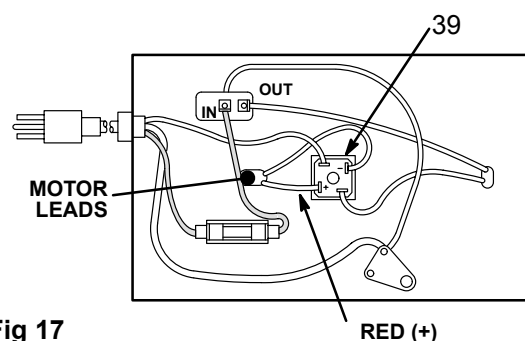

Fig 17
1. Remove the front cover (23).
2. Remove the base cover (42). Disconnect the motor leads from the positive and negative rectifier terminals. See Fig 17.
3. Remove the motor screws (20). Lift the motor (30) slightly. Holding the connecting rod (18a), pull the motor away from the housing (22).
4. Inspect the bearing (18b) in the connecting rod (18a). If it is worn or any rollers are broken, replace the bearing and connecting rod assembly (18) as instructed to the left.
6. Feed the motor leads through the rubber boot (69). Align the motor with the pins in the connecting rod housing (22). Guide the motor shaft (A) through the connecting rod bearing (18b). *Spin the motor shaft to be sure it moves freely.*
7. Loosely install the lockwashers (21) and screws (20). Spin the motor shaft again. Alternately tighten the screws. Spin the motor shaft again. See the CAUTION, following Step 8, to the left.
8. Connect the red motor lead to the positive (+) terminal and the black motor lead to the negative (-) terminal of the rectifier (39). See Fig 17.
9. Install the base cover (42) and bumpers (43), and the front cover (23).